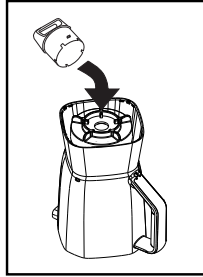

Fig. 17
- Turn the black threaded jar bottom down and place it over the small opening of the jar and the bottom of the blade. Turn clockwise to tighten (Fig. 17). Be sure the black threaded jar bottom is locked securely to the jar before using.